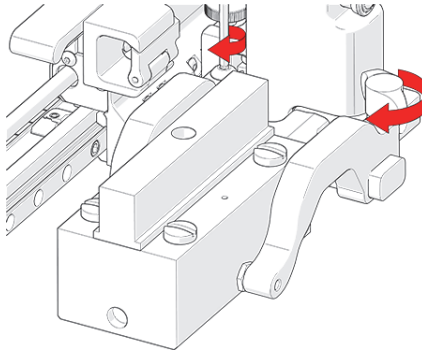

Figure 3-24 Tightening the arm screws
6. Tighten both the probe holder adjustment knob and the arm clamp screw while ensuring the wedge remains centered with the yoke (see Figure 3-24 on page 54).